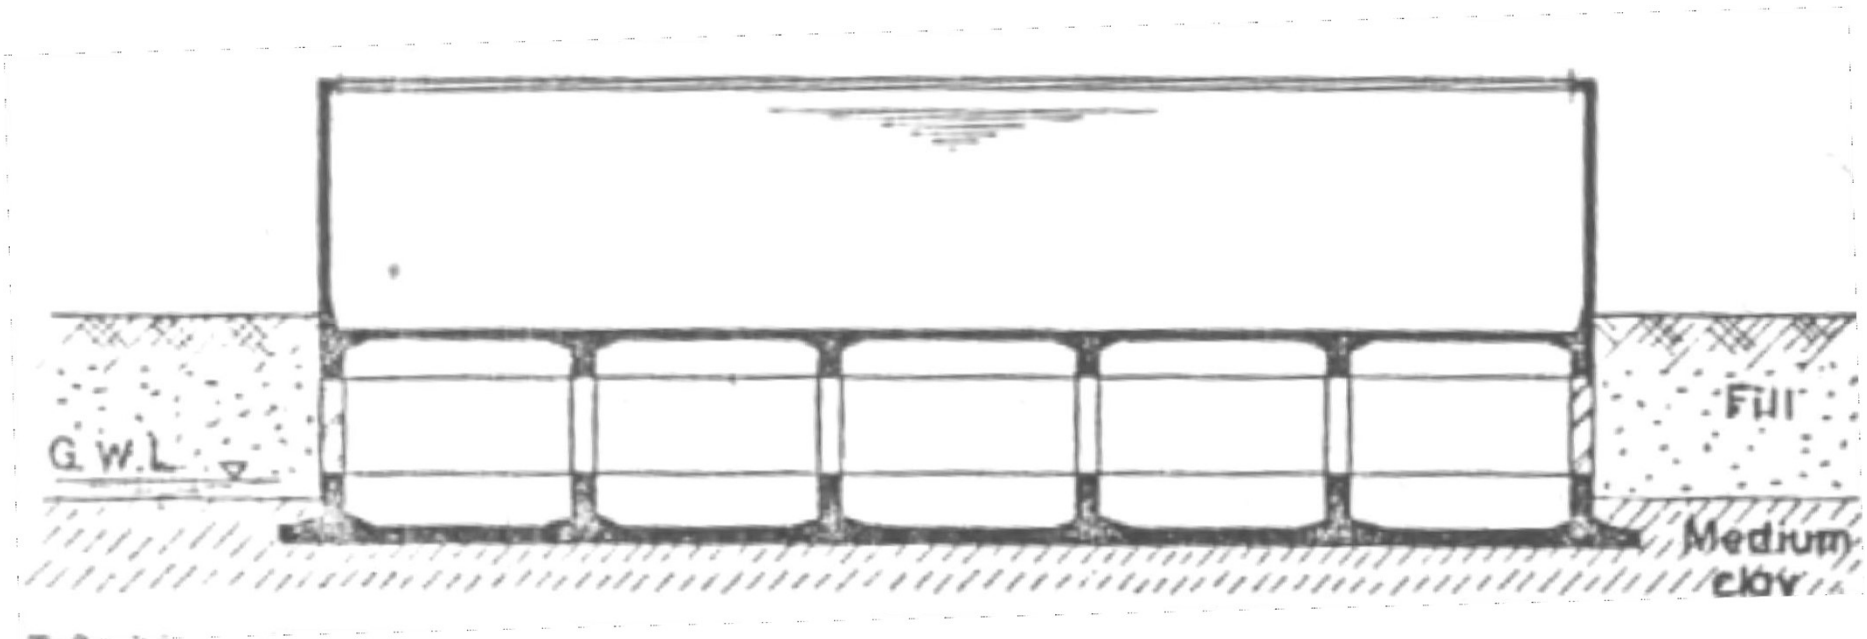

**Figure 1**
- It is recommended to support the tank on **columns and isolated or strip footings** if the stiff soil layers are at a reasonable depth from the ground surface (see Figure 1).